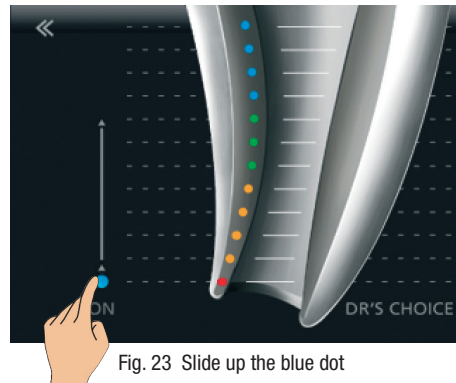

Fig. 23 Slide up the blue dot
- Place your finger on the blue dot and drag it to the preferred position in the apical section (Fig. 23).